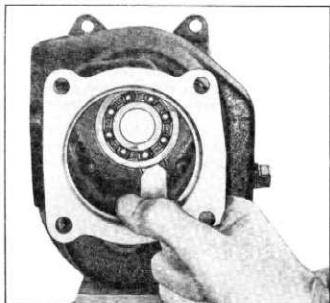

Fig. 10—Removing Rear Bearing
11. Expand the rear bearing lock ring into the case with the special expanding tool J-3185 (fig. 10). This raises the lock ring from the groove in the bearing and the bearing may be removed by lightly tapping the outer race toward the inside of the case. It is necessary to remove the rear bearing before attempting to remove the countergear.